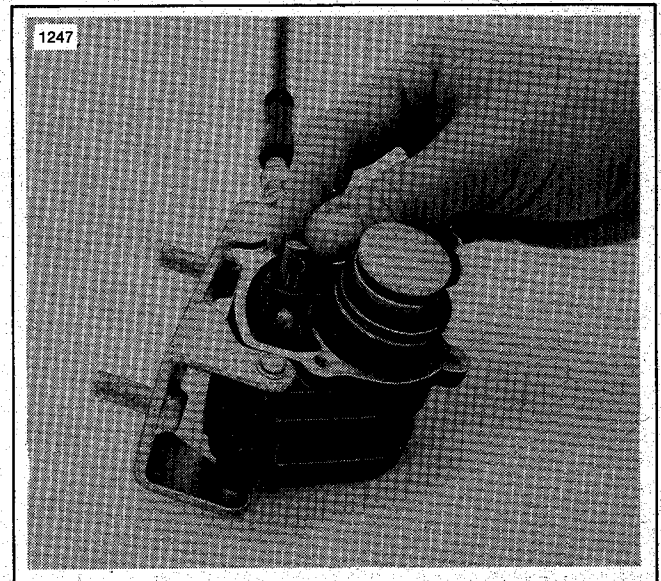

Figure 2-17. Removing End Pin
- Lift cable end pin from brake arm and cable (Figure 2-17). Removing ratchet gear assembly and remove cable from caliper.
5. Install cable end pin through hole in brake arm and over cable (Figure 2-17). Pull back on cable until cable end is fully seated in cable end pin (Figure 2-24).